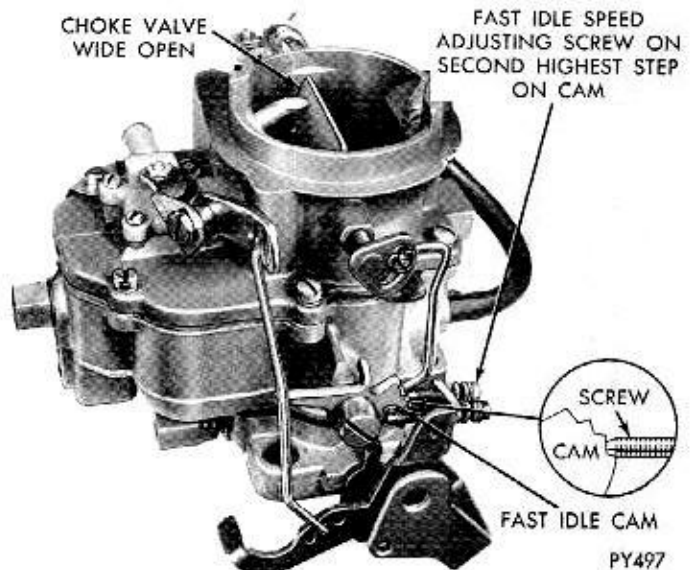

Fig. 18—Fast Idle Speed Adjustment (on Vehicle)
(1) With engine off and transmission in PARK or NEUTRAL position, open throttle slightly.
(2) Close choke valve until fast idle screw can be positioned on second highest-speed step of fast idle cam (Fig. 18).
(3) Start engine and determine stabilized speed. Turn fast idle speed screw in or out to secure specified speed. (See Specifications.)
(4) Stopping engine between adjustments is not necessary. However, reposition fast idle speed screw on cam after each speed adjustment to provide correct throttle closing torque.